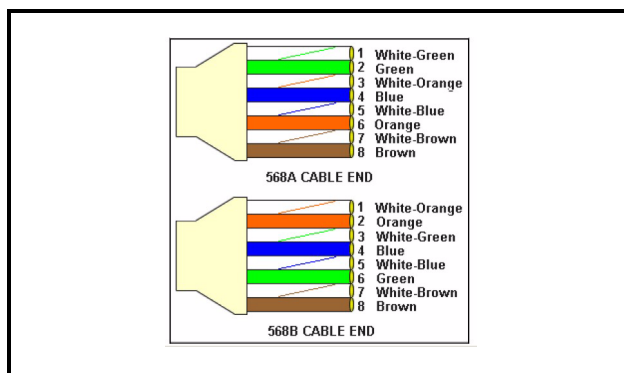

Figure 4-3 - 586A & 586B Cable End Wire Color Diagram
2. Untwist the wires to within 1/8" of the jacket. Arrange the wires according to TIE/EAI 586A & 586B (**Figure 4-3**). For straight patch cables, wire both ends 586A; for crossover cables, wire one end 586A and the other 586B. Insert wires into the loading bar. Trim excess wires.